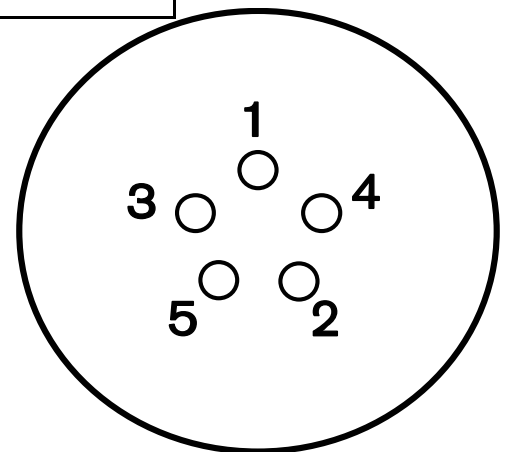

Figure 1. Tightening Sequence
- 10) Install lug nuts hand-tight. Progressively tighten lug nuts alternately and evenly in a crossing pattern similar to the sequence shown in Figure 1. Use calibrated torque wrench. Do not use lubricant of any type on lug nut or wheel nut seat surfaces.